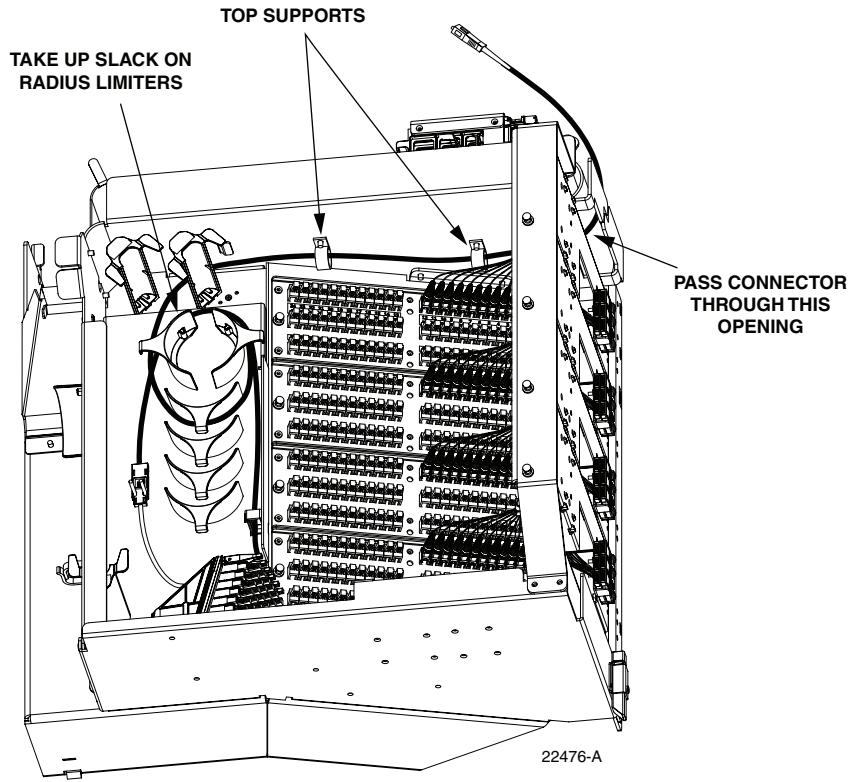

Figure 19. Re-Routing the Feeder Cable Fiber
6. When the feeder cable connector and fiber are free, pass the connector through the opening located behind the splitter compartment as shown in Figure 19.